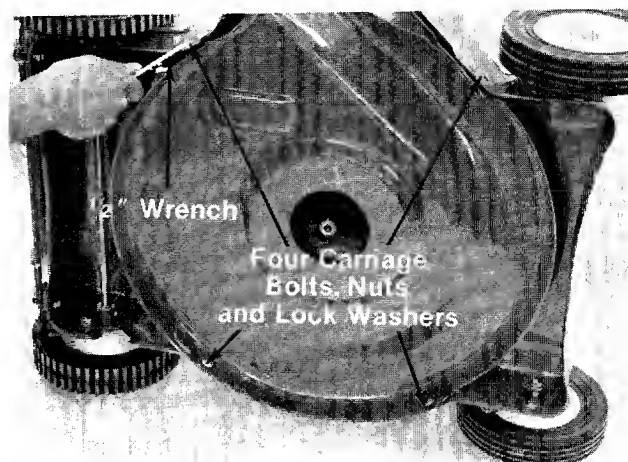

FIGURE 19.
3. Remove the four carriage bolts, nuts and lock washers holding the lower deck to the upper deck. A 1/2" wrench is required. See figure 19.